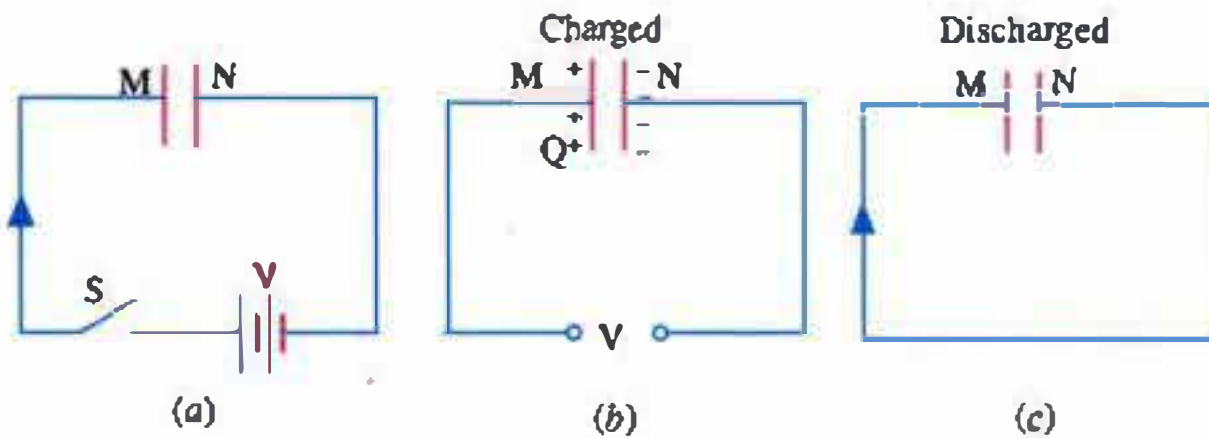

Fig. 5.24
When switch S in Fig. 5.24 (a) is closed, the capacitor gets connected across the battery. There is momentary flow of electrons from plate M to plate N . The positive terminal of the battery attracts and pulls away negatively-charged electrons from plate M which consequently becomes positive. Similarly, as these electrons collect on plate N , it becomes negative. Hence, a potential difference is established between the two plates M and N . This *transient* flow of electrons from one plate to another through the connecting wires gives rise to charging current which establishes positive charge of $+Q$ coulomb on the plate M . The strength of this charging current is maximum in the beginning when the two plates are uncharged but it then decreases and finally ceases when p.d. across the two plates becomes slowly and slowly *equal and opposite* to the battery emf i.e., V volts. The capacitor then becomes fully charged as shown in Fig. 5.24 (b).
2. as p.d. between the plates is increased, the dielectric medium comes under increasing stress. If this p.d. is increased, the stress in the dielectric increases till it can no longer bear it. At that stage, electrical breakdown occurs accompanied by a spark between the two capacitor plates. The maximum voltage per metre thickness which a medium can withstand without a rupture or breakdown is called its *dielectric strength*. Usually, it is given in kV/mm instead of the basic unit V/m. If the two leads of a charged capacitor are connected together as shown in Fig. 5.24 (c), the p.d. between the two plates is equalized and the capacitor becomes discharged;